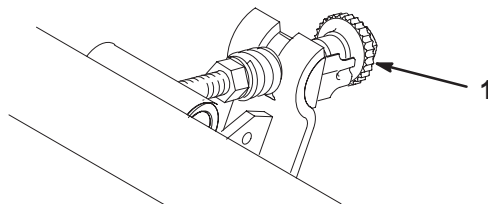

Figure 3
1. A 3/4 in. (19 mm) wrench will be needed to rotate bedknife adjustment knob. Each notch on the knob will move the bedknife .0005 inches (.013mm) (Fig. 3). Make sure reel contact is removed by rotating bedknife adjustment knob counterclockwise.